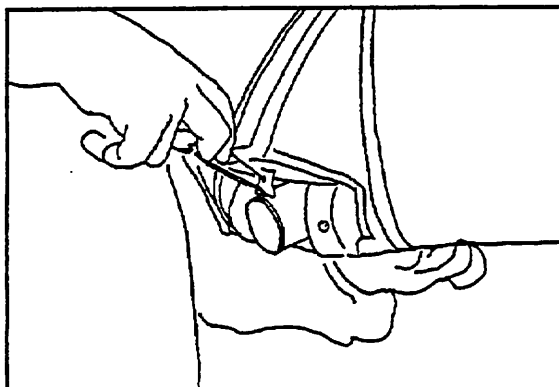

Figure 34
17) Push the nose batten all the way back into the sail, lifting the tip over the top of the keel until it is seated on top of the keel. (Figure 34)